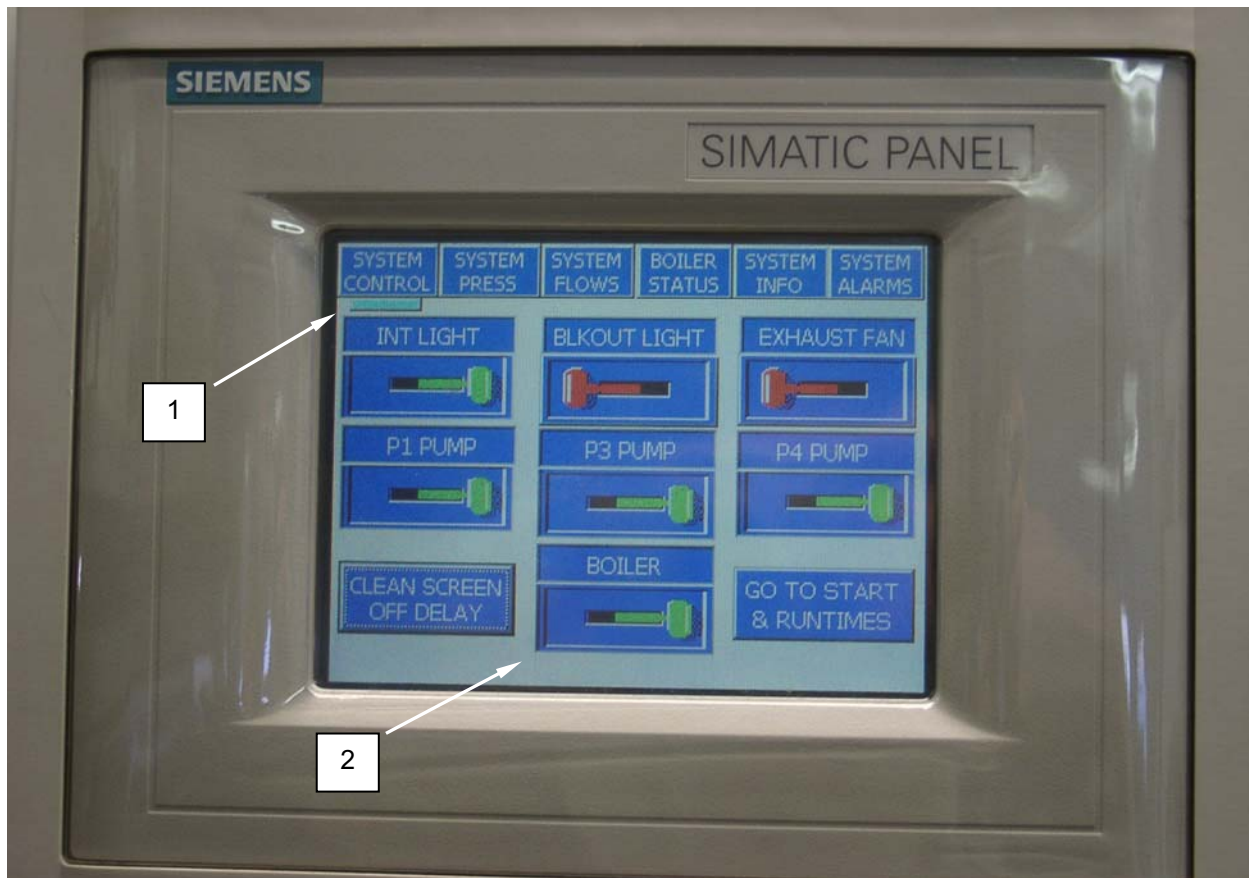

Figure 7. Operate the Boiler.
1. Ensure the System Control (**Figure 7, Item 1**) screen is displayed.
2. Turn the BOILER switch (**Figure 7, Item 2**) to the ON position. The switches will turn green when the switch is ON and red when the switch is OFF.